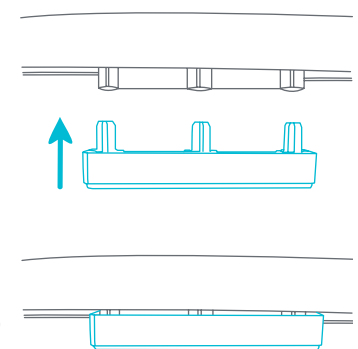

Fig. 7
- 7 • Push the stopper into the housing completely (Fig. 7). Repeat for the other sides.**